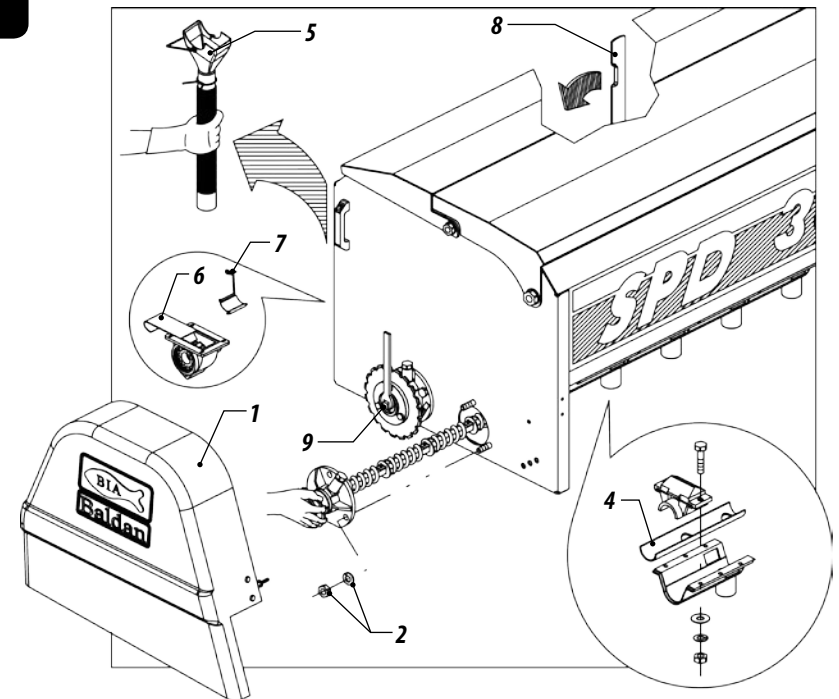

Figure 144
- 01 - Remove the protection cover of the transmission (1), loosen the nuts and washers (2) of the hub (3) only from the outer part of the seed drill, pull the hub with the complete shaft (3), turning it to facilitate removal. Check the PVC channels (4) located at the bottom of the hopper and change in the case of wear.
- 02 - Clean the hoppers and also the shafts and then wash them with running water. Remount the shafts observing the correct mounting of the channel assembly because the fertilizer outlet orifices of both the channel and the spout must coincide as shown in the figure 144.
- 03 - Remove the seed spouts (5);
- 04 - Completely open the cover (6) of the seed distribution box;
- 05 - Unlock the counter handle (7) leaving it loose;
- 06 - Completely open the seed handle (8) to number 18 of the scale;
- 07 - Turn the seed shaft (9) with the key until all the seed falls out;
- 09 - Remount the hopper after cleaning, figure 144.